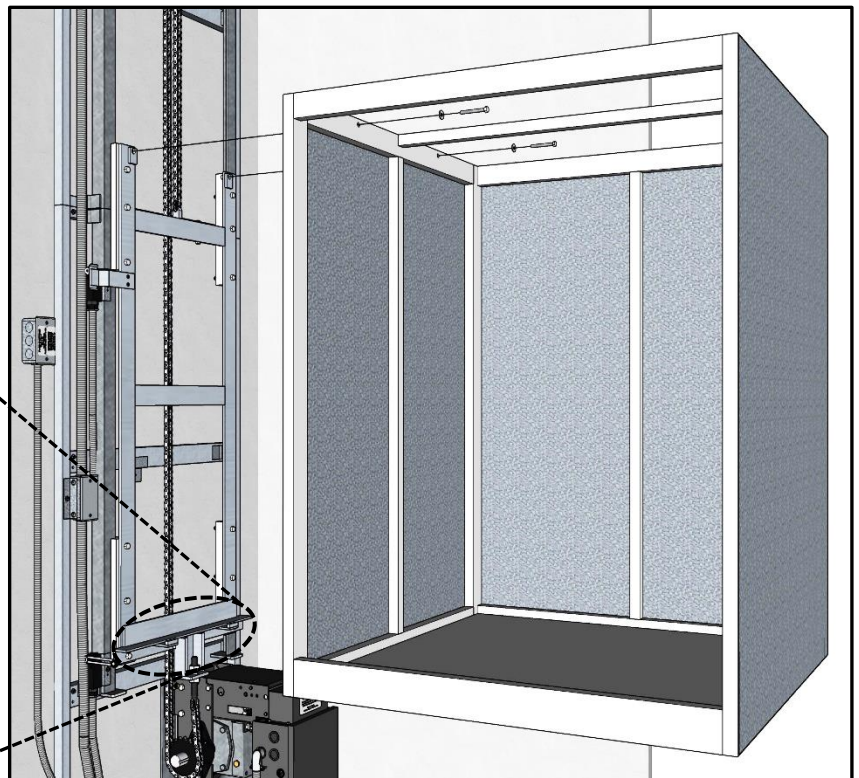

Figure 32
- 2** Use provided bolts ($\frac{3}{8}$ "-16 x 2") & washers to secure dumbwaiter car to trolley. (see **Figure 32**)